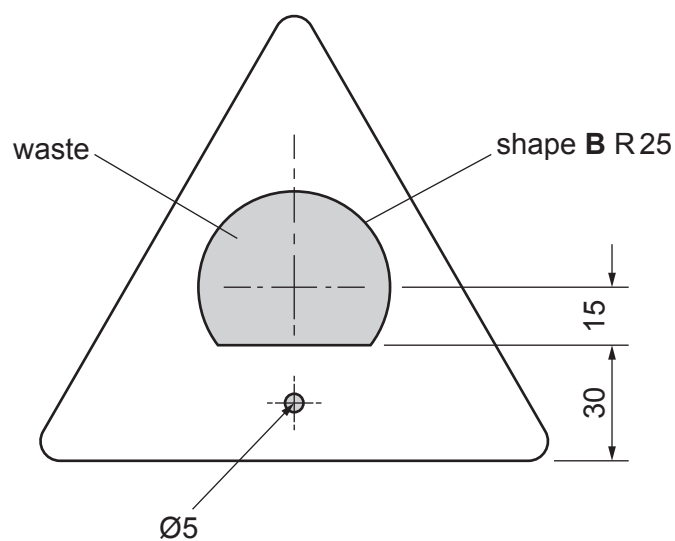

Fig. 13.3
- (c) Fig. 13.3 shows the front of the bird feeder with the $\text{Ø}5$ hole and shape **B** marked out.